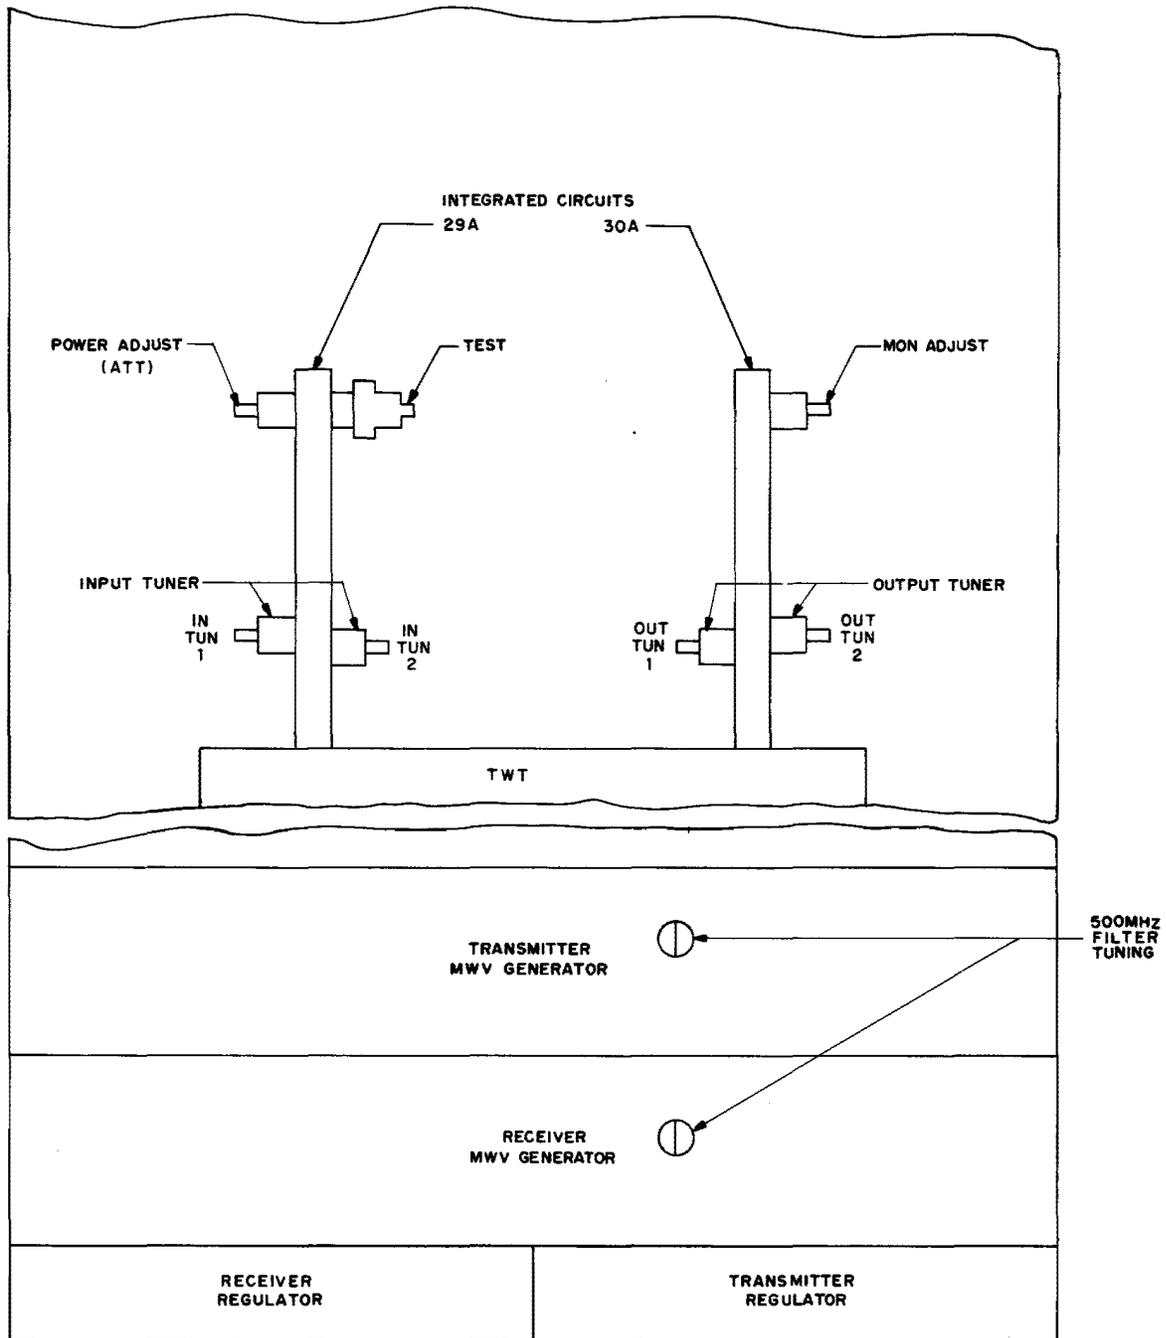

Fig. 1—Bottom Front of Main Station Bay
| Fig. 1—Bottom Front of Main Station Bay | 3 |
2.01 On the transmitter, remove the piece of 3-inch flexible waveguide following the 30A integrated network (see Fig. 1) and on the receiver, the piece of 3-inch flexible waveguide ahead of isolator AT1.
If this requirement is not met, remove the cover panel and vary the ADJ VOLTS control on the appropriate regulator (See Fig. 1).